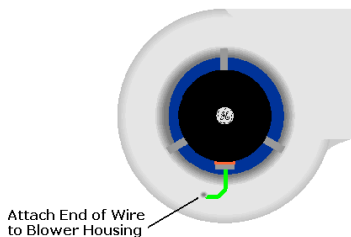

Figure 1
- 1) **Grounding** - Attach a direct grounding wire from the blower housing to the green grounding wire on the input voltage line via the connection harness. The motor enclosure is internally connected to the connector ground. The green wire of figure 1 shows a typical ground connection from motor to blower housing.